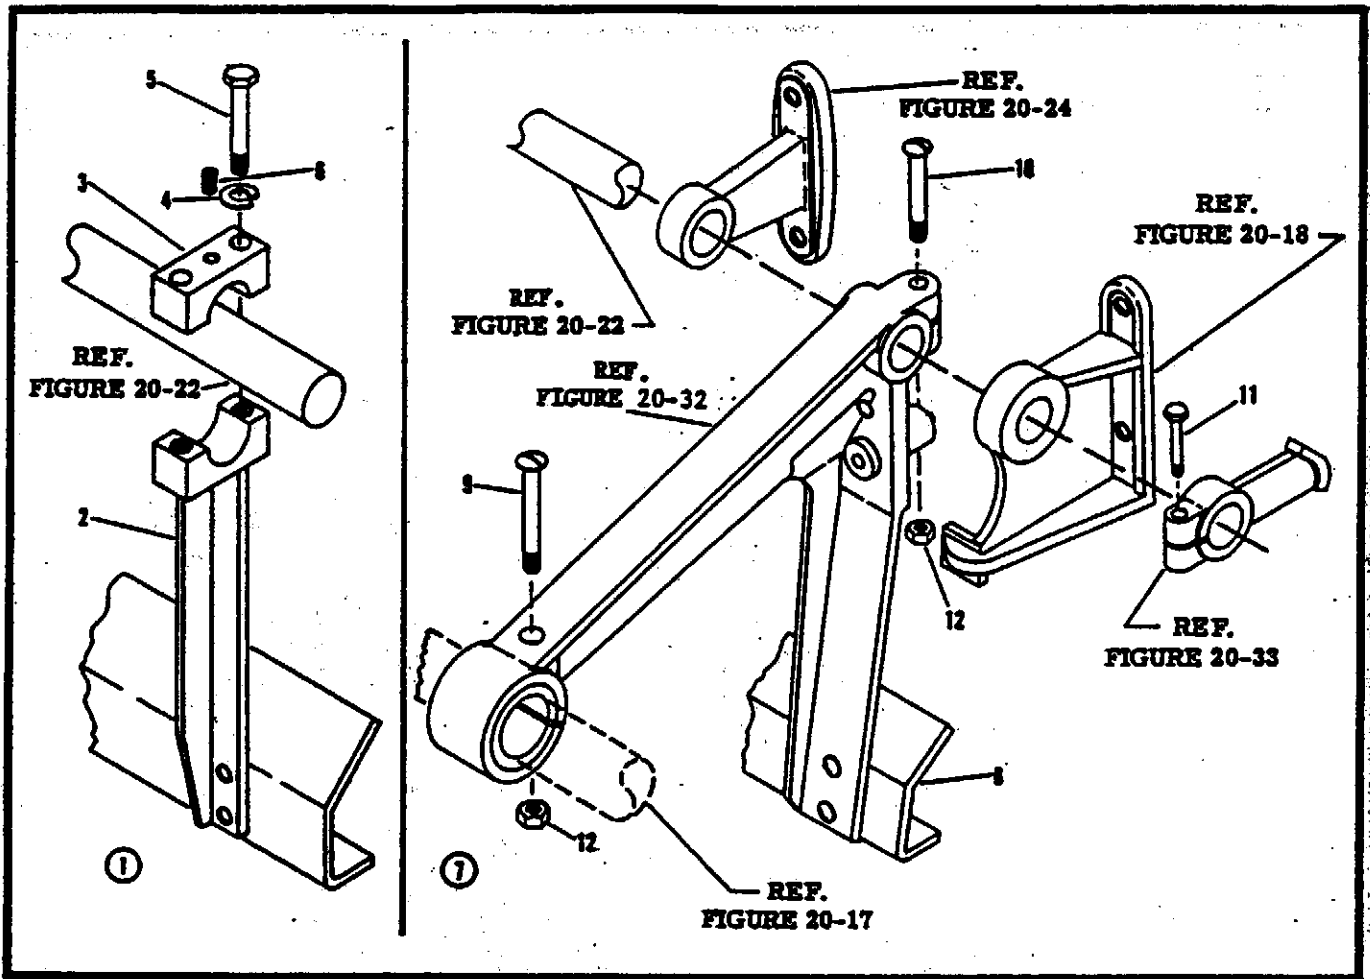

Figure 40. Finger Guard Installation
FINGER GUARD. Refer to Figure 40. The optional finger guard for field application is easily installed and does not require any drilling operation. Separate the blocks (3) by removing the 5/16-inch hex hd. capscrews (5) holding the 6 split clamp assemblies together. Back out the 5/16-inch setscrews (6) until they clear the pivot shaft area. Place the guard assembly (2) so that the finger guard is between the doffer roll and the safety fence with guard rivet heads toward the doffer roll. Move the guard assembly upwards until the lower half of the clamp assembly fits onto the pivot shaft. Center the guard assembly over the feed ribbon table, crosswise, and install the upper block of the 6 clamp assemblies. Insert the 5/16-inch hex hd. capscrews (5), 2 to each clamp assembly, and a lockwasher (4) under each cap screw head. Tighten all capscrews until the clamp assemblies fit snug against the pivot shaft, yet permits the assembly to turn on the shaft. Depress fully the safety bar and hold at this position. Position the guard assembly so that the rear of the lower edge of the finger guard will clear the projection of the safety fence about 1/2 inch. Tighten all 5/16-inch hex hd. capscrews and then, tighten the 5/16-inch setscrews (6) so that the guard assembly will not turn on the pivot shaft. Release the safety bar and move the assembled guard, up and down, to determine if further adjustment is required. The microswitch for stopping the ironer is regulated by the standard safety bar.